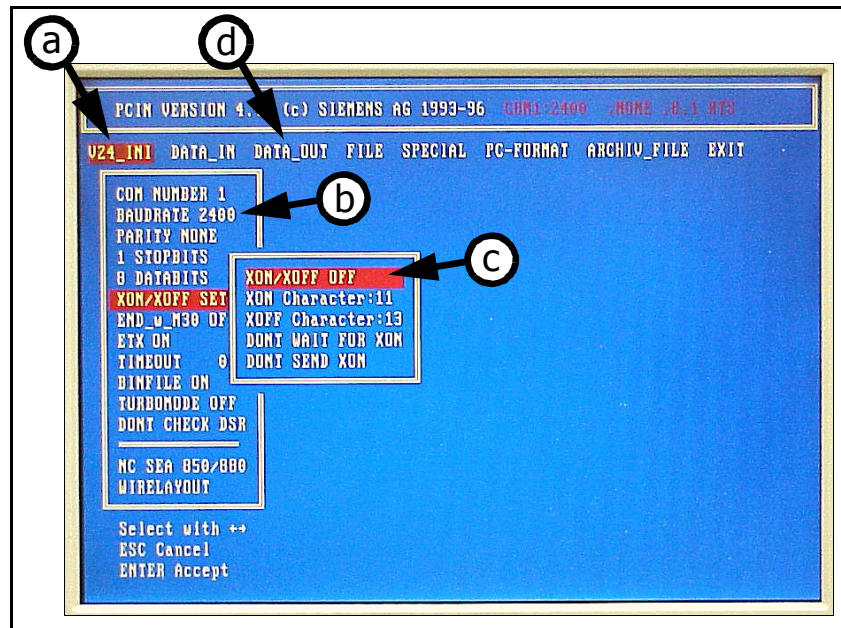

Figure 3 PCIN screen display with the communication parameters box opened.
2. Select **V24_INI** at the top of the screen (See “a” in Figure 3). Press **ENTER**, two times if necessary, to display the communication parameters box.
3. Set **COM** number to “1” or “2” (depending on the COM port communications cable connection at the external computer). Navigate to the **COM NUMBER** line using the arrow keys. Use the arrow keys to select the proper COM port settings (See “b” in Figure 3).
4. Set XON/XOFF parameter to "OFF." Use the arrow keys to navigate to the *XON/XOFF SET* line. Use the arrow keys to select *ON* or *OFF* setting in the box that displays (See "c" in Figure 3).
8. Select *DATA_OUT* at the top of the screen (See "d" in Figure 3).